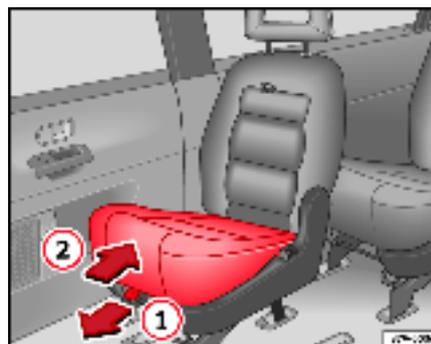

Fig. 40 Integrated child seats. lift up the cushion
- Pull the loop to the front in the direction of the arrow ⇒ fig. 40 ①.
- Push the seat cushion in direction of the arrow ② until it engages in position.
- Remove the head restraint out of the backrest of the integrated child seat and replace the head restraint together with the slumber roll ①A.